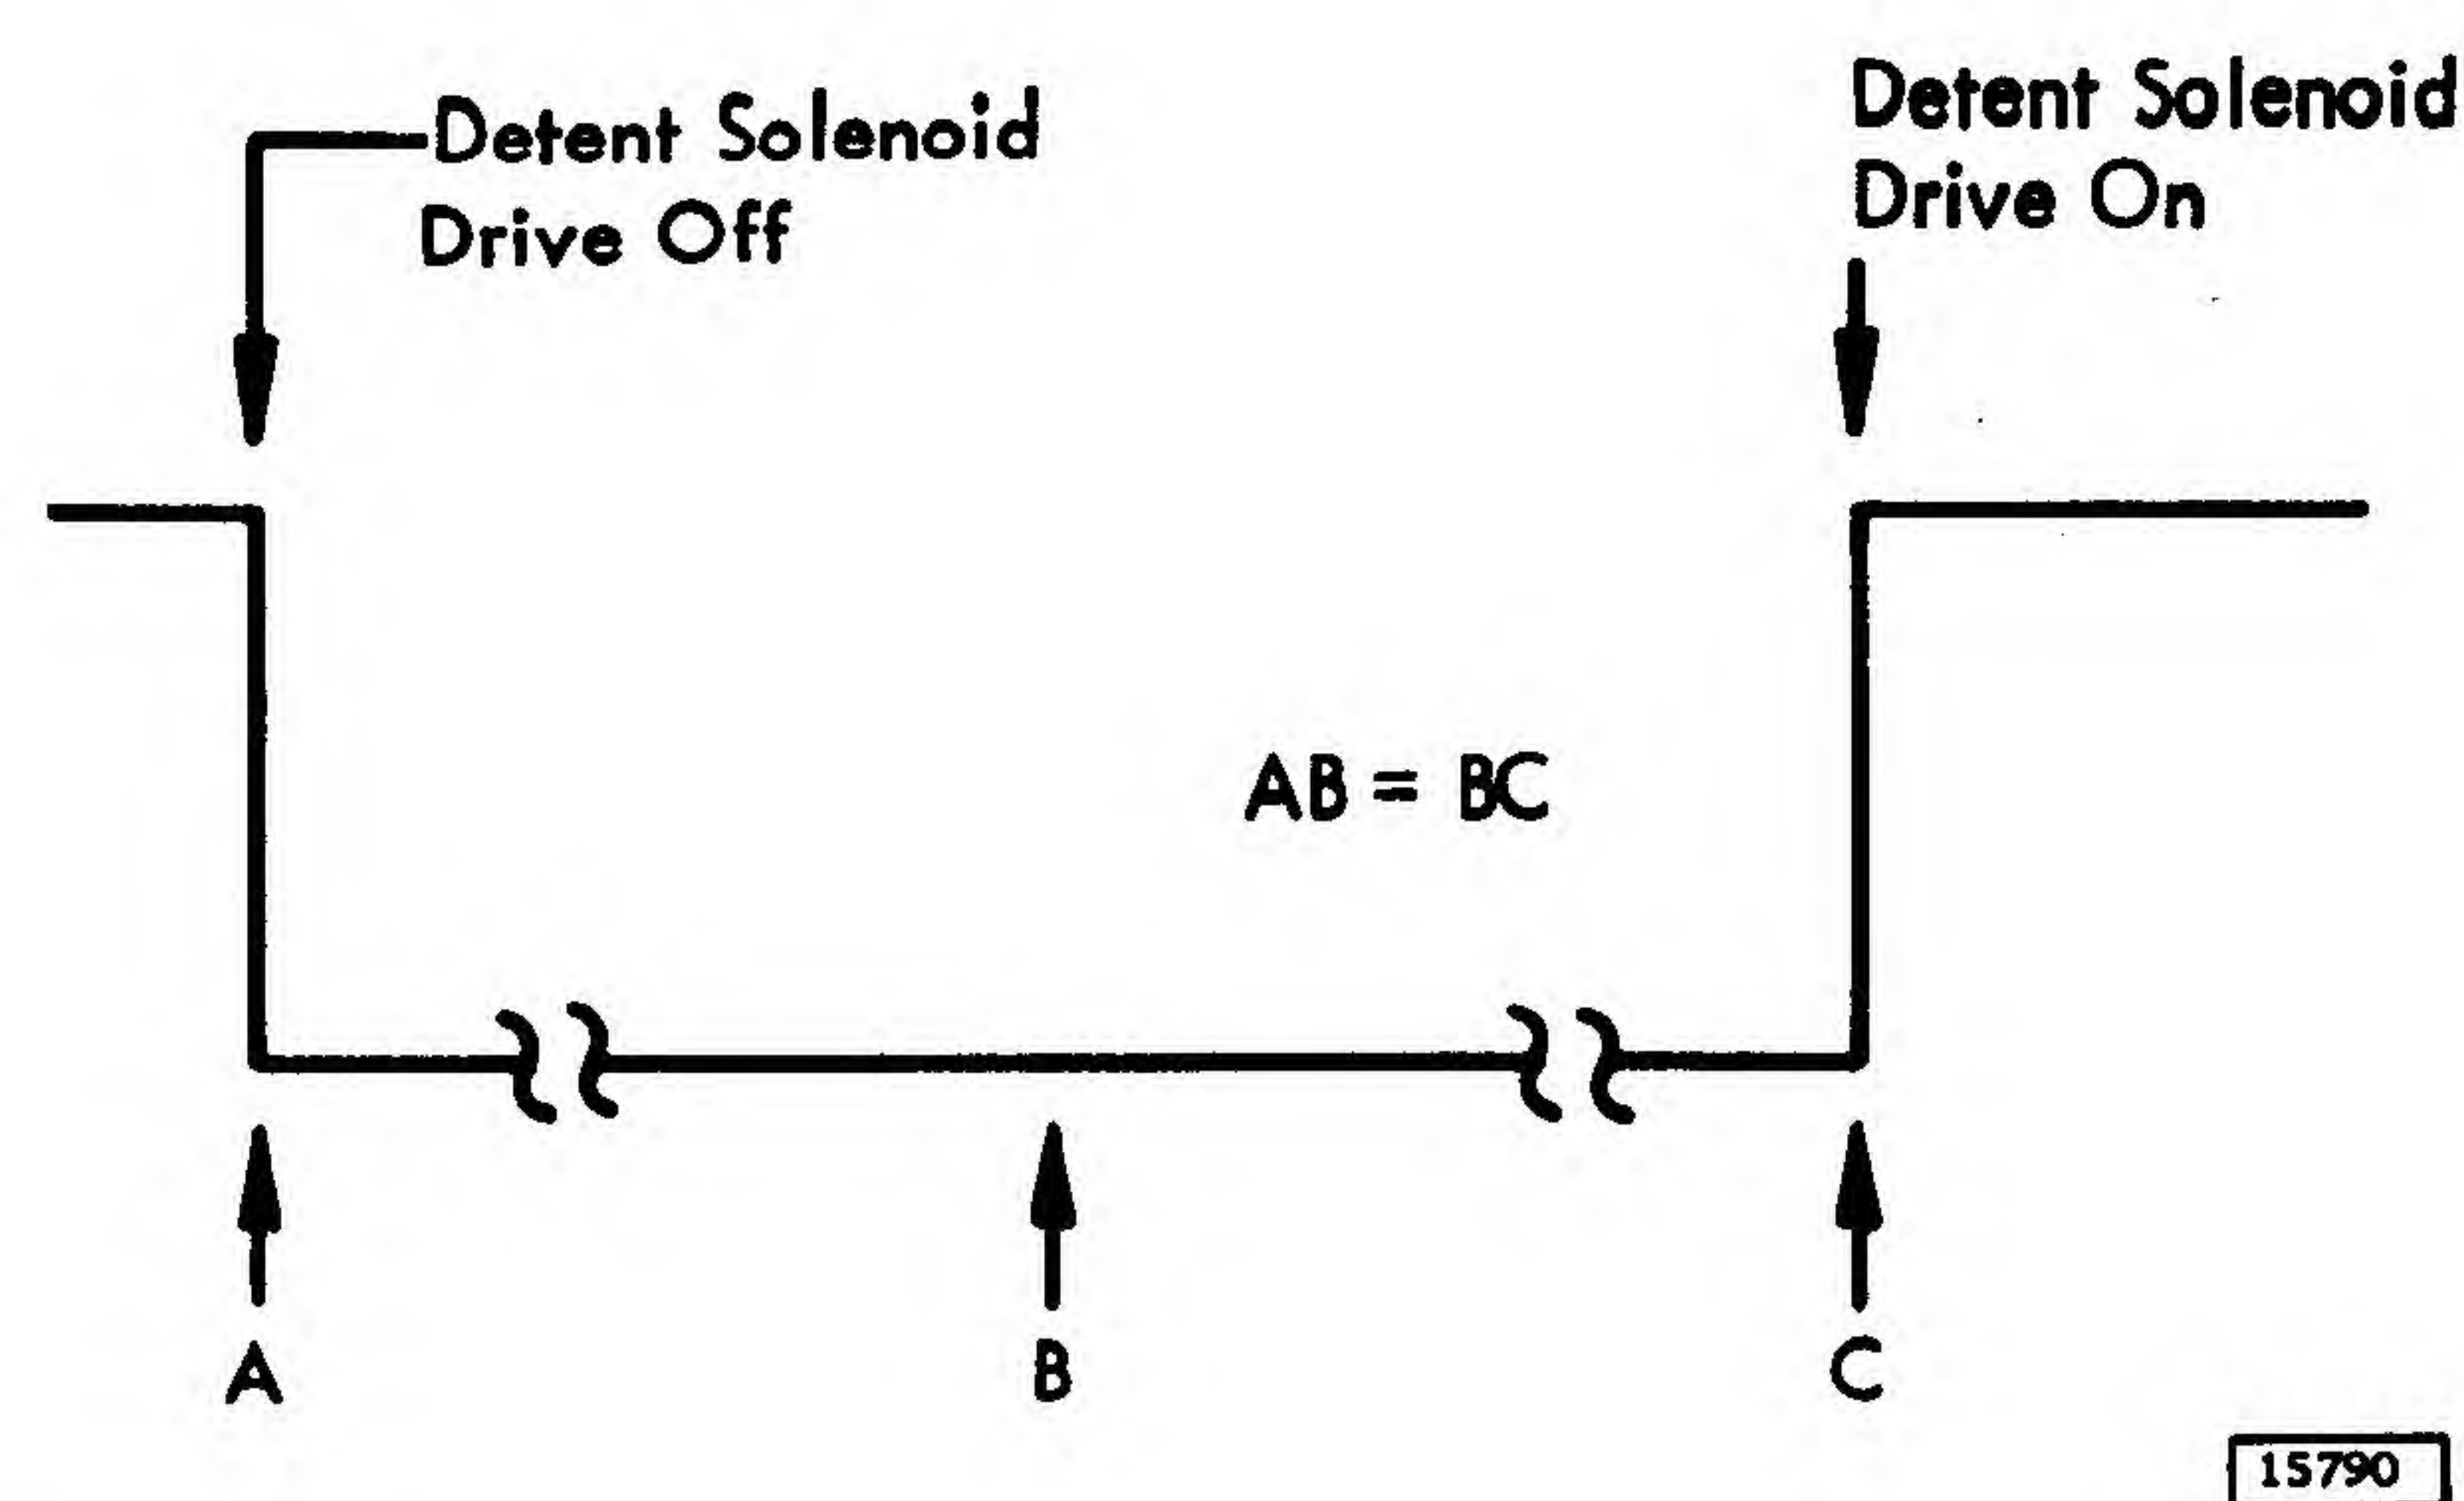

Figure 3-5. Detent Safety Check
3. Check the motion integrator (TED-at 01A5E12). It should be adjusted to give maximum down level time (as observed at Pin F) while performing an access of 250 cylinders. This is to be measured during B-C portion of the motion cycle (See Figure 3-5).